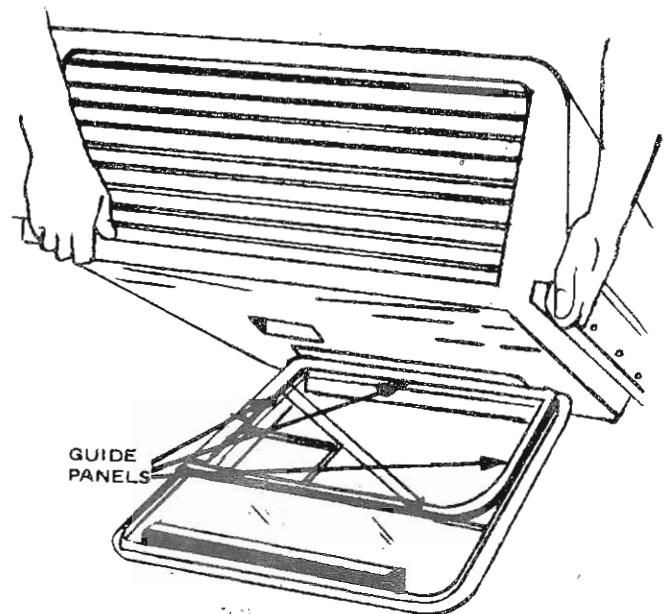

FIGURE 5
5. Set air conditioner on roof flashing, using the guide panels to align return air section on unit with the corresponding opening in roof flashing. **CAUTION: Do not damage the foam tape sealer on top of roof flashing.** Figure 5.